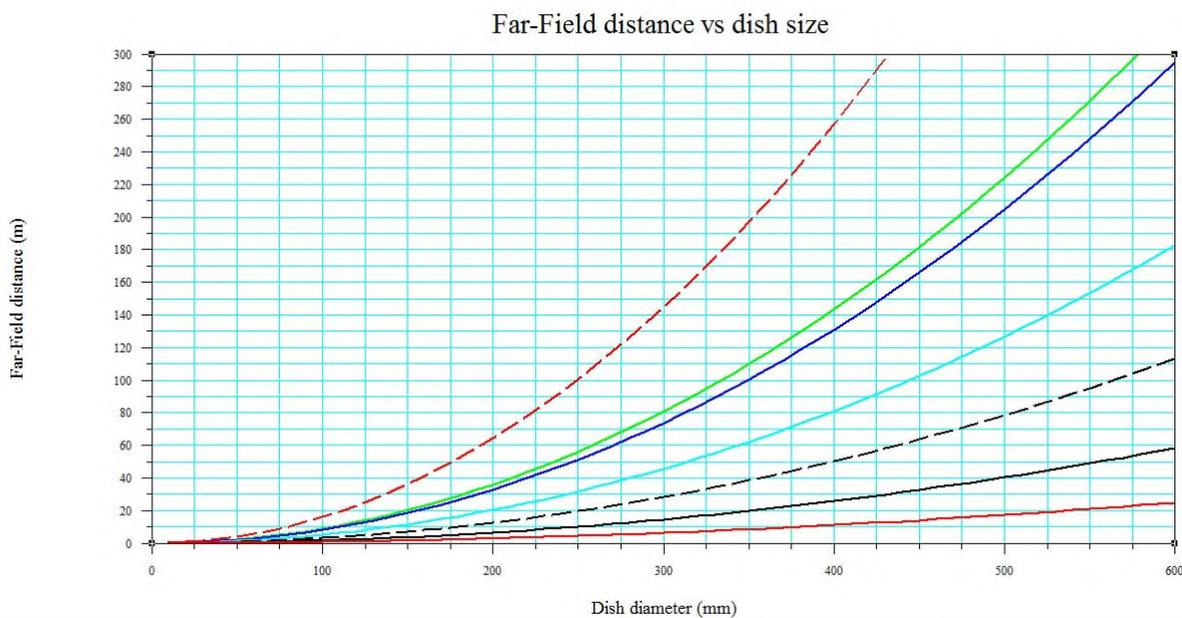

Figure 1
where D is the maximum transverse dimension (e.g. dish diameter) of the larger antenna. The variation of far-field distance with antenna size on the microwave bands above 10GHz is shown in Figure 1. It may seem paradoxical that the far-field distance for a given dish size increases with frequency but this is due to the factor D/λ in (1), i.e. the size of the dish being expressed in wavelengths. FF must remain fixed during the measurement programme outlined below.